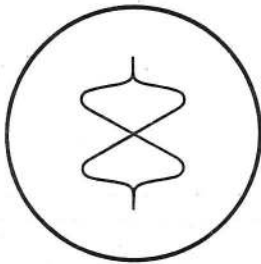

FIG. 2
| .1 MFD. | " | " | " | " | Vertical input to Point 1. Ground to B-. | A7 | Reconnect 5 MFD cap. (10) to Point 1. Adjust for maximum straightness of crossover lines with crossover occurring at center of pattern per Fig. 2. Continue with FM-RF Alignment in Step 7. |